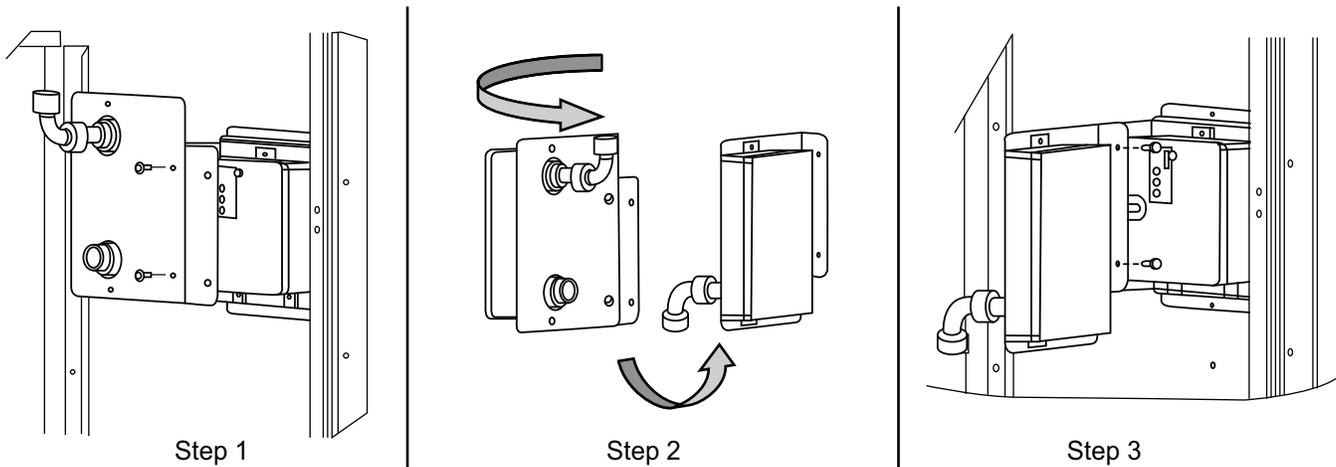

Fig. 57 – Completing Installation of Return-Air Smoke Sensor
1. Unscrew the two screws holding the return air smoke detector assembly. See Fig. 57, Step 1. Save the screws.
2. Turn the assembly 90 degrees and then rotate end to end. Make sure that the elbow fitting is pointing down. See Fig. 57, Step 2.
3. Screw the sensor and detector plate into its operating position using screws from Step 1. See Fig. 57, Step 3.